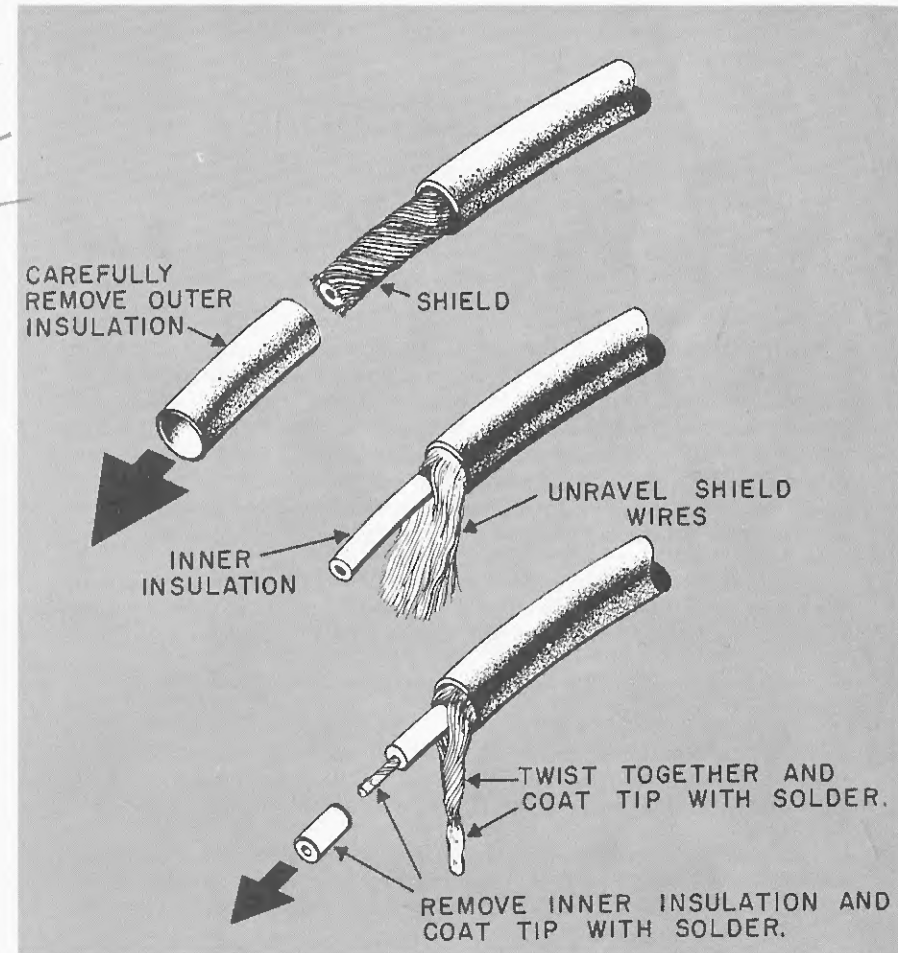

FIGURE 9
- ✓ 5" single-conductor shielded cable. See Figure 9 for cable preparation. From one end of the cable, carefully strip away 1" outer insulation. Unwind the shield strands from around the inner conductor and twist them together. Lightly solder the tip of the shield wire to prevent the strands from unraveling. Remove ¼" insulation from the inner conductor and lightly coat the tip of the exposed wire with solder. From the other end of the cable, strip away 1" outer insulation and ¼" inner insulation. Remove the shield wire at this end by cutting the strands close to the outer insulation. ✓
- ✓ 15½" single-conductor cable. From both ends of the cable, strip away 1" outer insulation and ¼" inner insulation. See Figure 9 for cable preparation. Remove the shield wire from one end. ✓